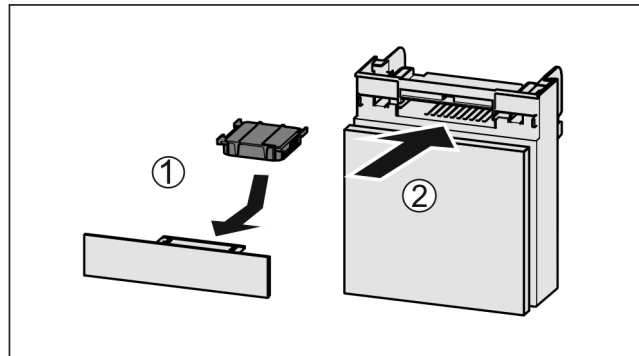

Fig. 166
- ▶ Insert the carbon filter as shown in the diagram *Fig. 166 (1)*.
- ▶ Push the compartment in *Fig. 166 (2)*.